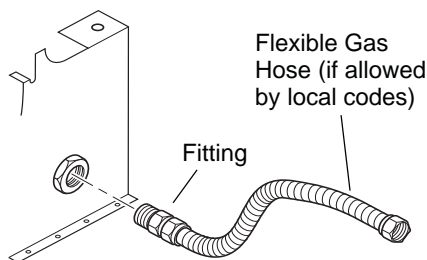

Figure 11 - Attaching Flexible Gas Hose to Heater
1. Apply pipe joint sealant lightly to male threads of the fitting to be threaded into gas control. Connect approved flexible gas hose to gas control fitting in heater (see Figure 11, page 11).